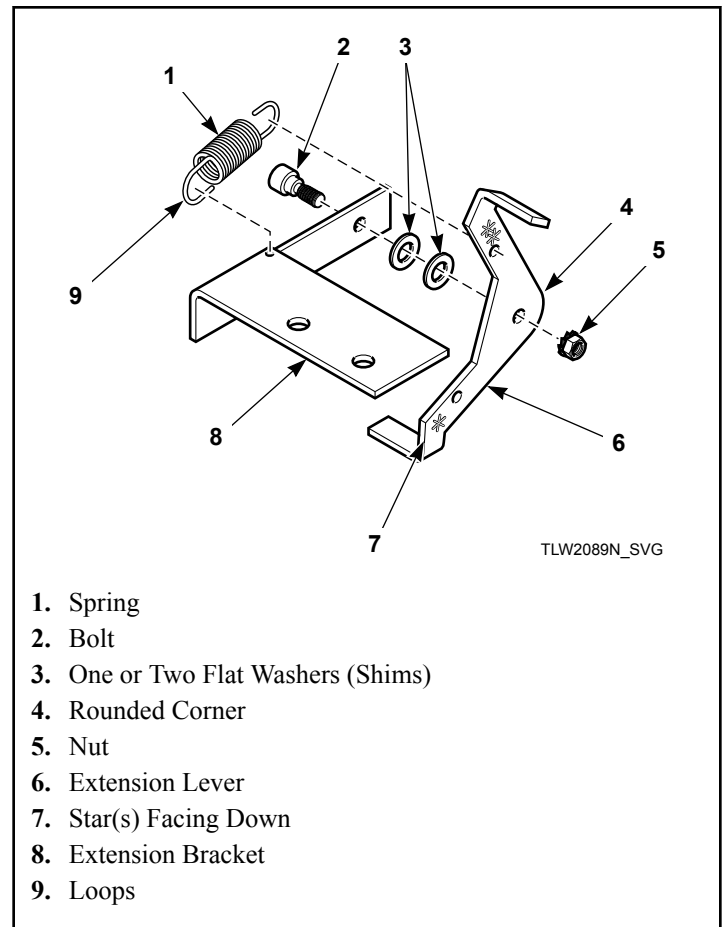

Figure 25
4. Install extension lever with rounded corner facing away from extension bracket using bolt, one or two flat washers (shims) (use number of washers included in kit) and nut. Refer to *Figure 25*. Make sure washers are flat against bracket.
6. Install extension spring in bracket hole and hole in upper arm of lever. Refer to *Figure 25*.